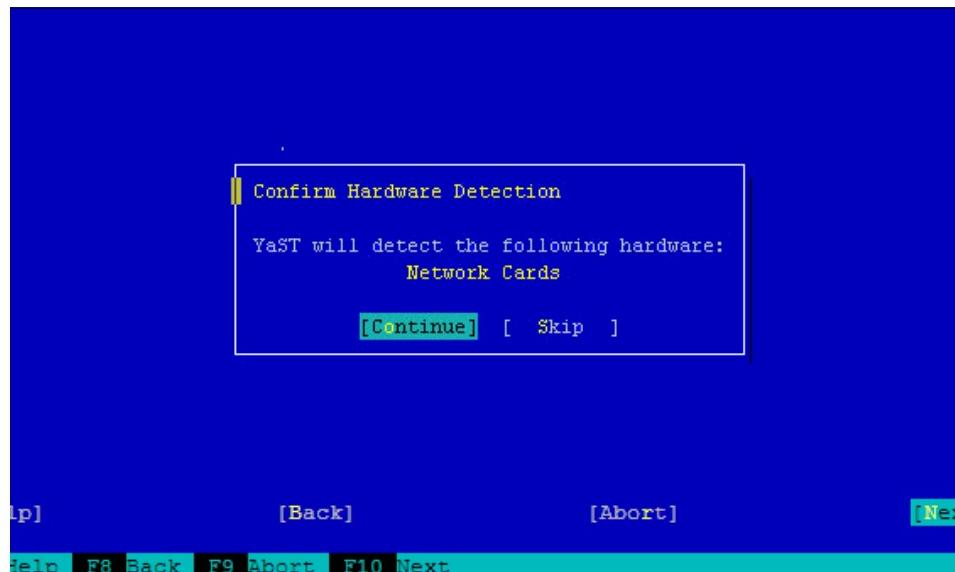

Figure 9-24 Confirm hardware detection window
17. After booting from the appropriate storage device YaST will start again. Select **[Continue]** for each hardware device YaST detects, as shown in Figure 9-24 on page 385.